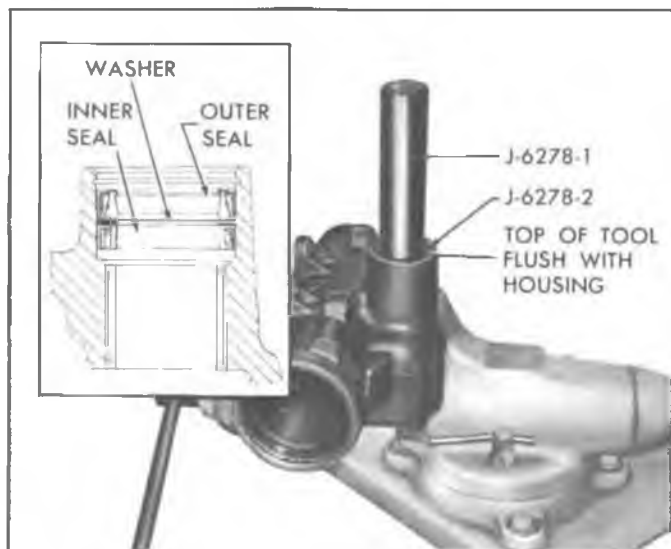

Fig. 51 – Installing Pitman Shaft Seals
- b. Drive the seals into the housing until the top of Adapter J-6278-2 is flush with the housing (fig. 51).
- d. Reinsert Tool J-6278 with Adapter J-6278-2 and continue driving the seals until the retaining ring seats in its groove (Refer to Inset, Figure 51), then remove the tool adapter.